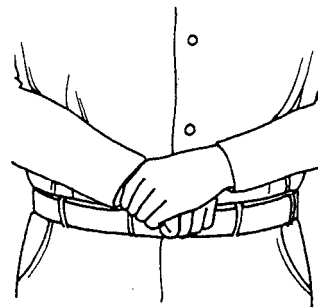

Figure 10-6.—Correct hand positioning.
3. Grasp the fist with the other hand (fig. 10-6).